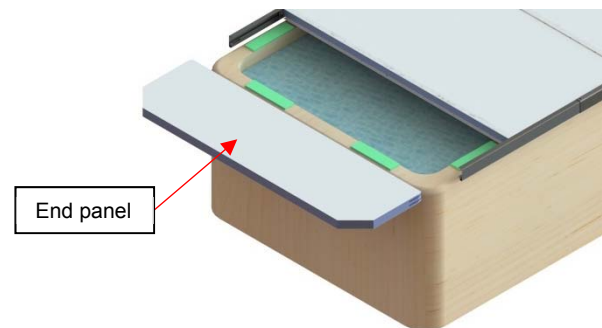

Figure 28
26) Insert one of the end panels with the tapered end toward the end of the cover. The end panels are tapered with a 45-degree cut. (Figure 28).